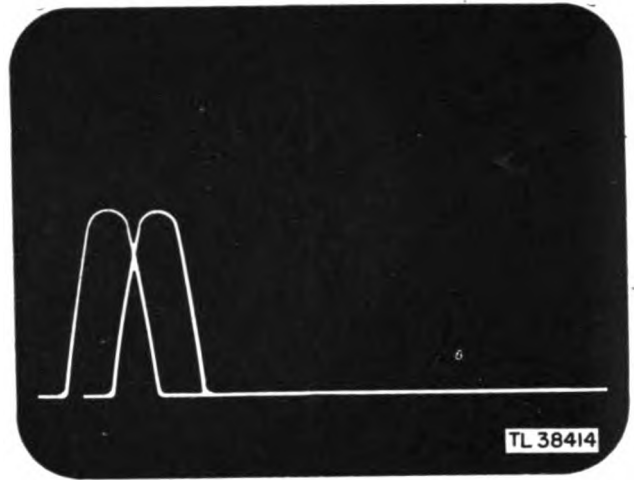

Figure 7. Azimuth determination.
b. When the signals are displayed on the cathode-ray tube, the height of the pips indicates the strength of the signals. The path of the spot can be shifted in synchronism with the shifting of the beam so that the signals from the two sides can be seen side by side. This is known as *spread* and can be adjusted by the operator. When the antenna is pointing toward the target, the signals will be of equal height (fig. 7). When the antenna is not at the azimuth of the target, one pip will be higher than the other. The direction in which the antenna is pointing is observed on the azimuth indicator.